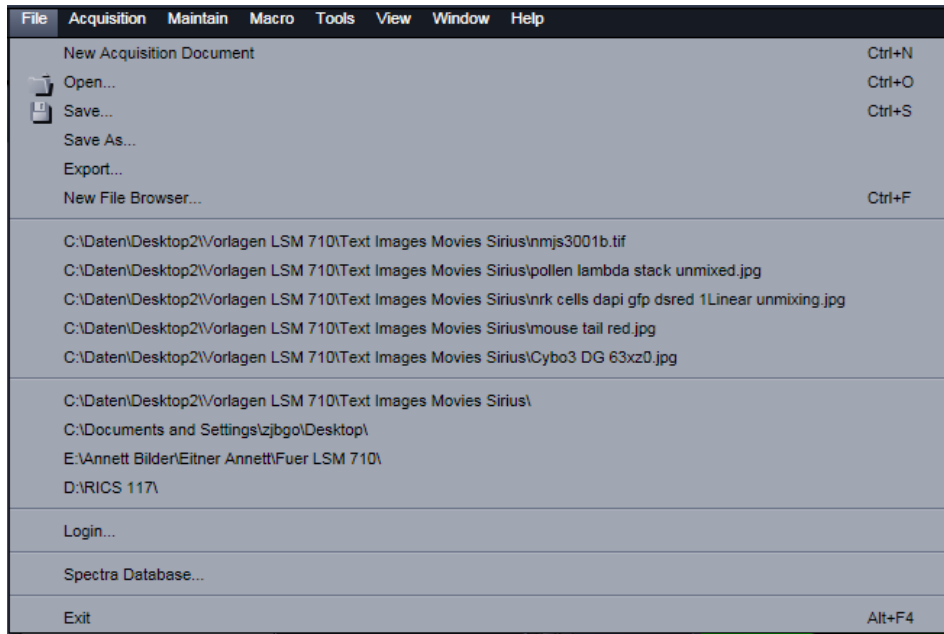

Fig. 7-1 File menu
- This displays the menu shown in Fig. 7-1.